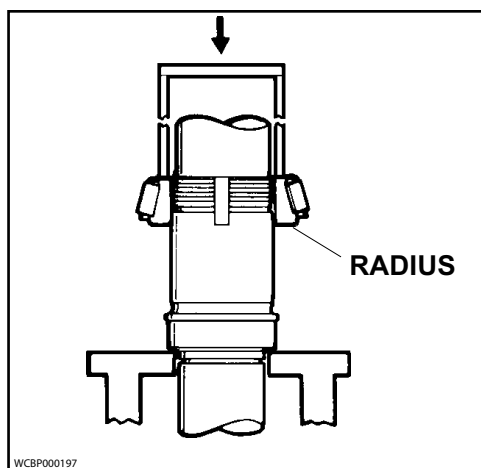

Figure 66 - Press Lower Cone onto Shaft
1. Lift the lower cone and roller assembly out of bearing stack and place on the shaft with the radius facing down. Press it onto the shaft until it is seated against the shaft shoulder. **Press only on the inner cone, as shown in Figure 66.**